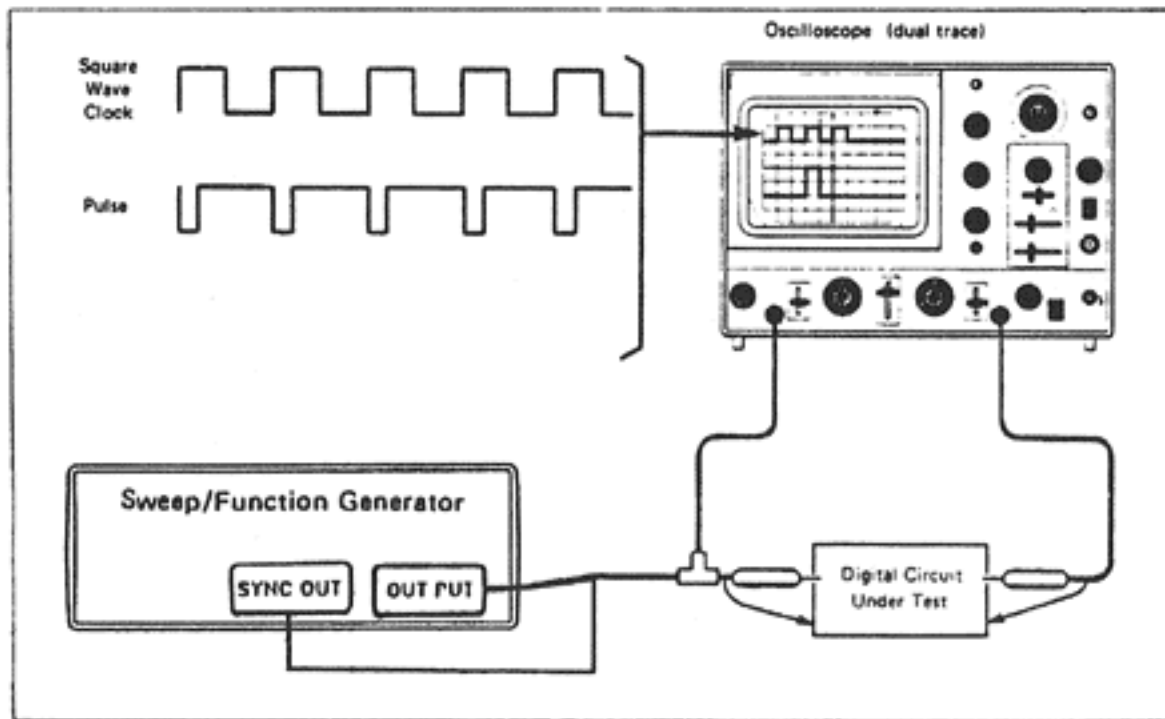

Fig. 11 Testing digital logic circuits.
- a. Connect the equipment to a digital logic circuit. (Fig. 11)